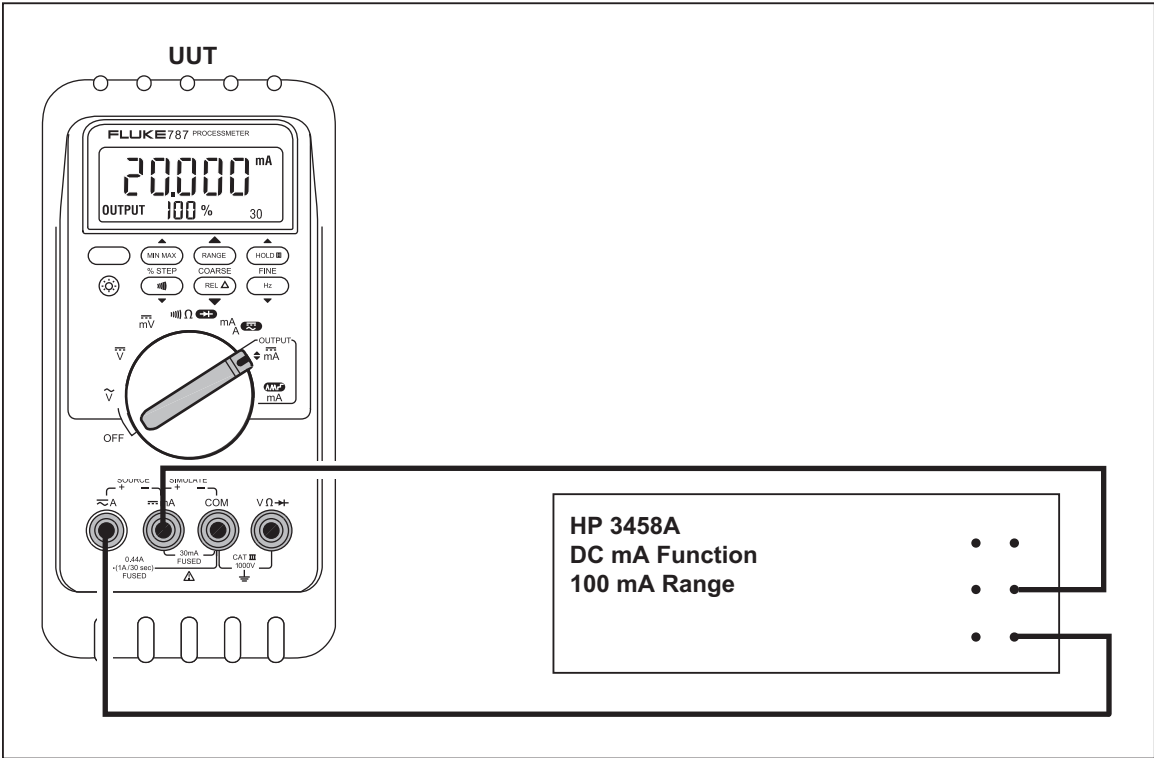

Figure 4. Current Sourcing Connections Using the HP 3458A
- 2. Connect the **SOURCE +** (**~A**) and **-** (**mA**) terminals on the UUT to the current terminals on the multimeter as shown in Figure 4.